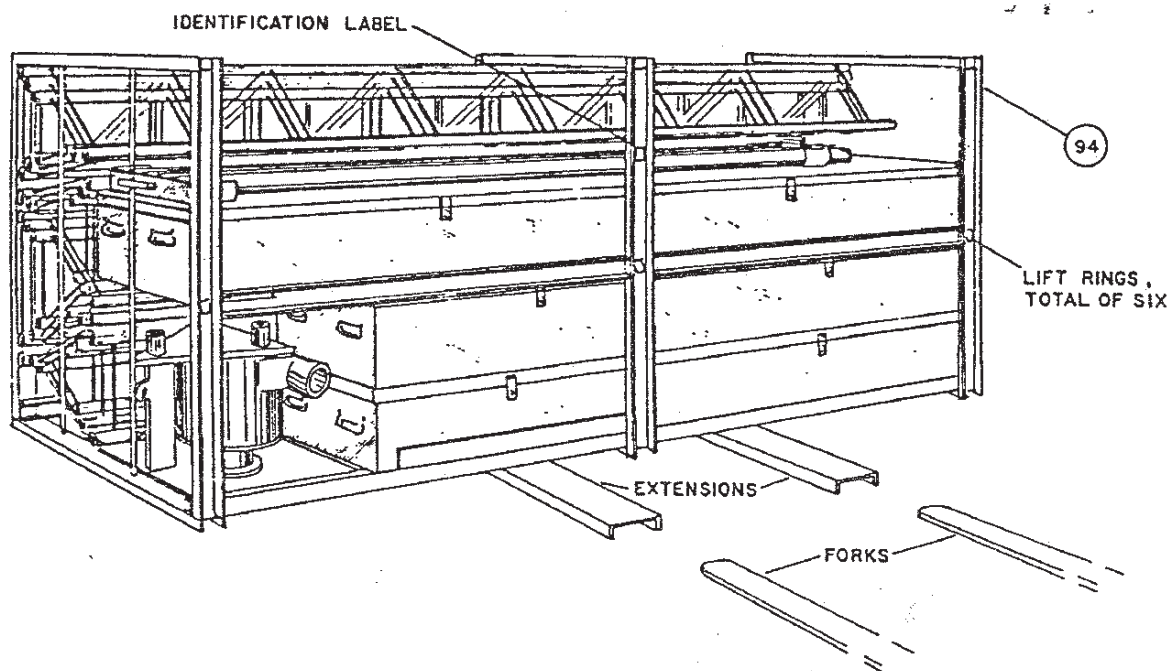

Figure 2-2
- c. This system may be shipped by any means of transportation. If a front loader or fork lift is used, exercise care when unloading the equipment. Do not allow any of the skids to fall or be damaged in any way. Do not start unloading the system until all metal bands, chains and other fastening devices are removed. Three lift rings are provided on each side of the shipping crate for use when unloading the crate with crane and cables. Figure 2-2 shows all major assemblies to the shipping crate. When using a fork lift to unload the system, place the forks as far apart as possible and lift the system at the location shown. Extension brackets may be required on the forks to avoid damaging any of the lower components.